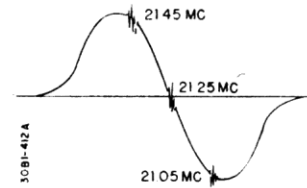

Figure 3-4. Ratio Detector Response Curve.
5. Observe ratio detector response (figure 3-4). Since the sweep signal is fed through the entire audio IF system for this check, mis-alignment of the audio IF's will affect this curve. This provides an overall audio IF response check. The shape of the curve should be such as to provide a minimum vertical voltage slope of 50 KC to each side of the 21.25 MC marker (cross over point). Maximum size and linearity of the straight portion of the curve is ideal. Note that the ratio detector circuit used gives a symmetrical "S" pattern. Check for linearity between the markers indicated on the curve. The response curves obtained may appear inverted and/or reversed (end for end) depending on the sweep generator and oscilloscope used.